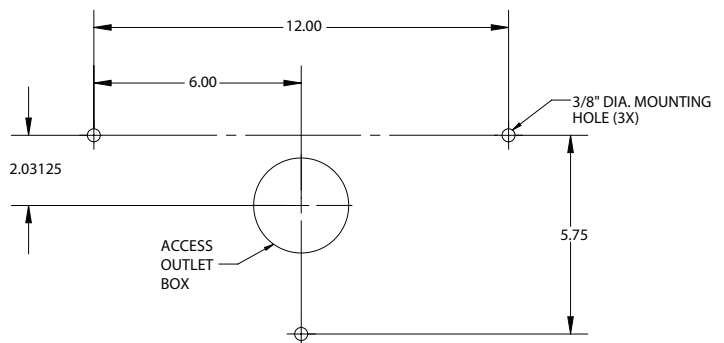

FIG. 1
1. Use the dimensions **FIG. 1** on instruction sheet to locate and drill three mounting holes on the wall. Template shows location between center line of outlet box or conduit thru wall.